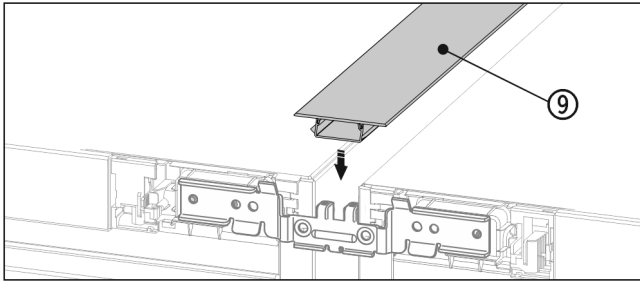

Fig. 21
- On the top press the short cover strip Fig. 21 (9) into the horizontal gap.